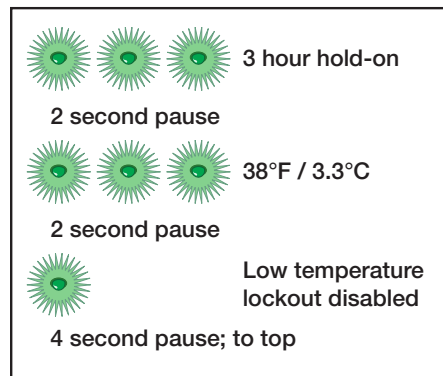

Figure 7. LED response, factory configuration
the four (4) second gap helps the user identify Field 1, the starting point of the sequence, even after the sequences of pulses have repeated several times. The LCD-8's factory-set configuration is represented in Figure 7, above.